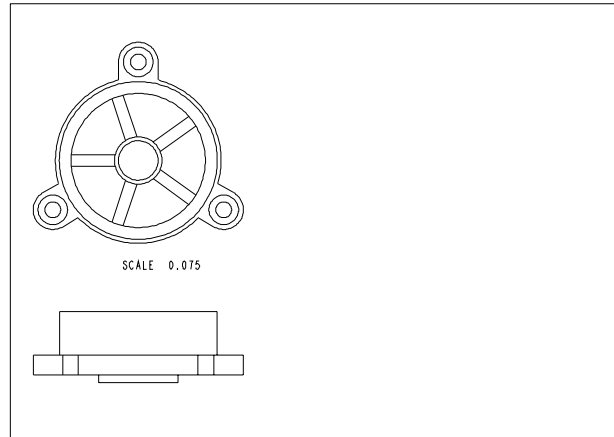

Figure 11-44 The top and front views
- Generate the top view, refer to Figure 11-44.
- Generate the front view taking the top view as the parent view, refer to Figure 11-44.
2. Specify the center point for the front view below the top view, as shown in Figure 11-44.
13. Align the lines and modify the angular dimension to **120**, as shown in Figure 11-44.